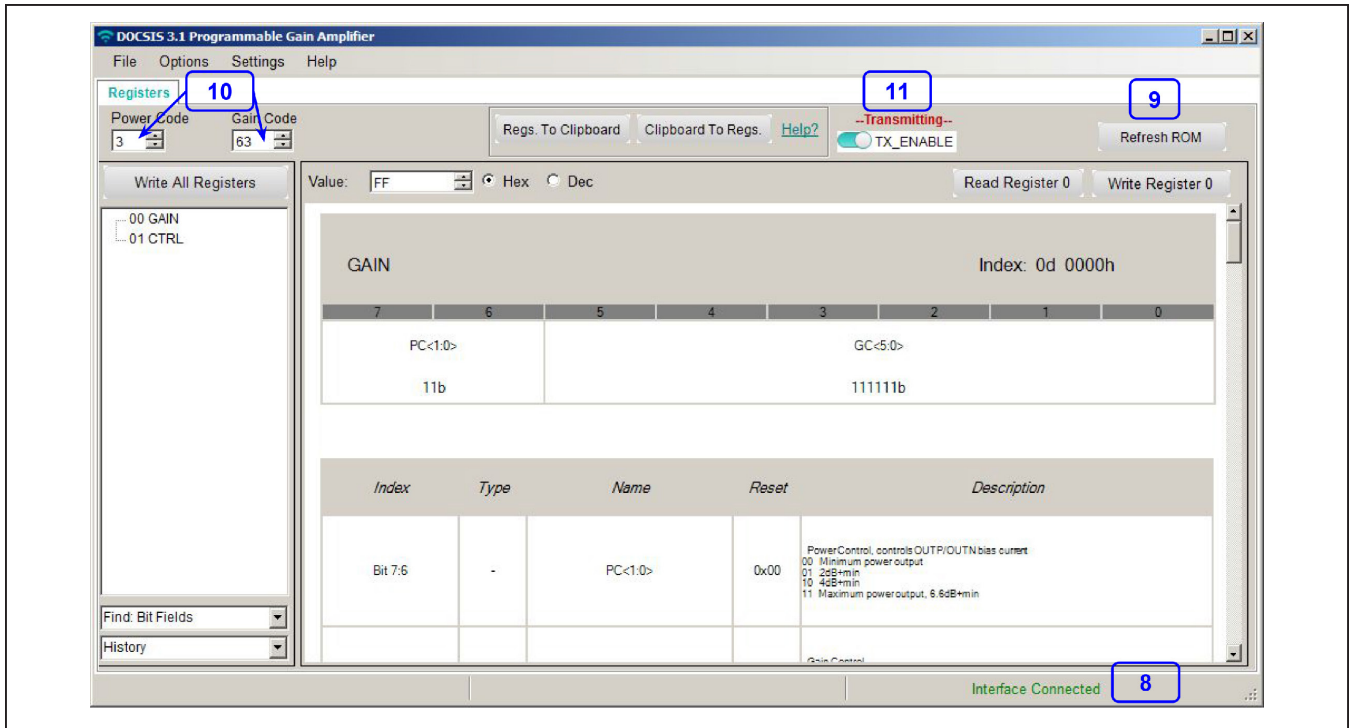

Figure 2. EV Kit GUI Register00
- 8) Run MAX3522.exe. MAX3522B GUI should be launched as shown in Figure 2. Please notice that the sequence of first turning on the power supply then starting the GUI is very important. This sequence ensures proper initialization of the MAX3522B. If the setup is successful, GUI should indicate “interface connected”, in the lower right corner of the GUI (see Figure 2).
- 9) On the MAX3522B GUI, hit Refresh ROM button, located in the upper portion of the GUI (see Figure 2).
- 10) On the MAX3522B GUI, set Power Code = 3, Gain Code = 63, (located in the upper-left section of the GUI) by using the up/down arrow buttons or typing the value (see Figure 2).
- 11) On the MAX3522B GUI, Turn on the TX\_ENABLE switch (see Figure 2). The supply current from the +5V supply should read approximately 1100 mA. **Be sure to adjust the power supply to account for any voltage drop across the ammeter.**